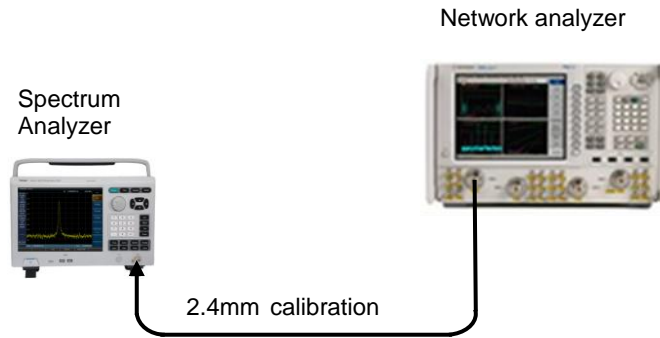

Fig 11-18 Input Port Voltage Standing Wave Ratio Test
- 3) After the calibration, remove the calibration kit from the end of the calibration cable and connect it to the RF input port of the spectrum analyzer, as shown in Fig 11-18.